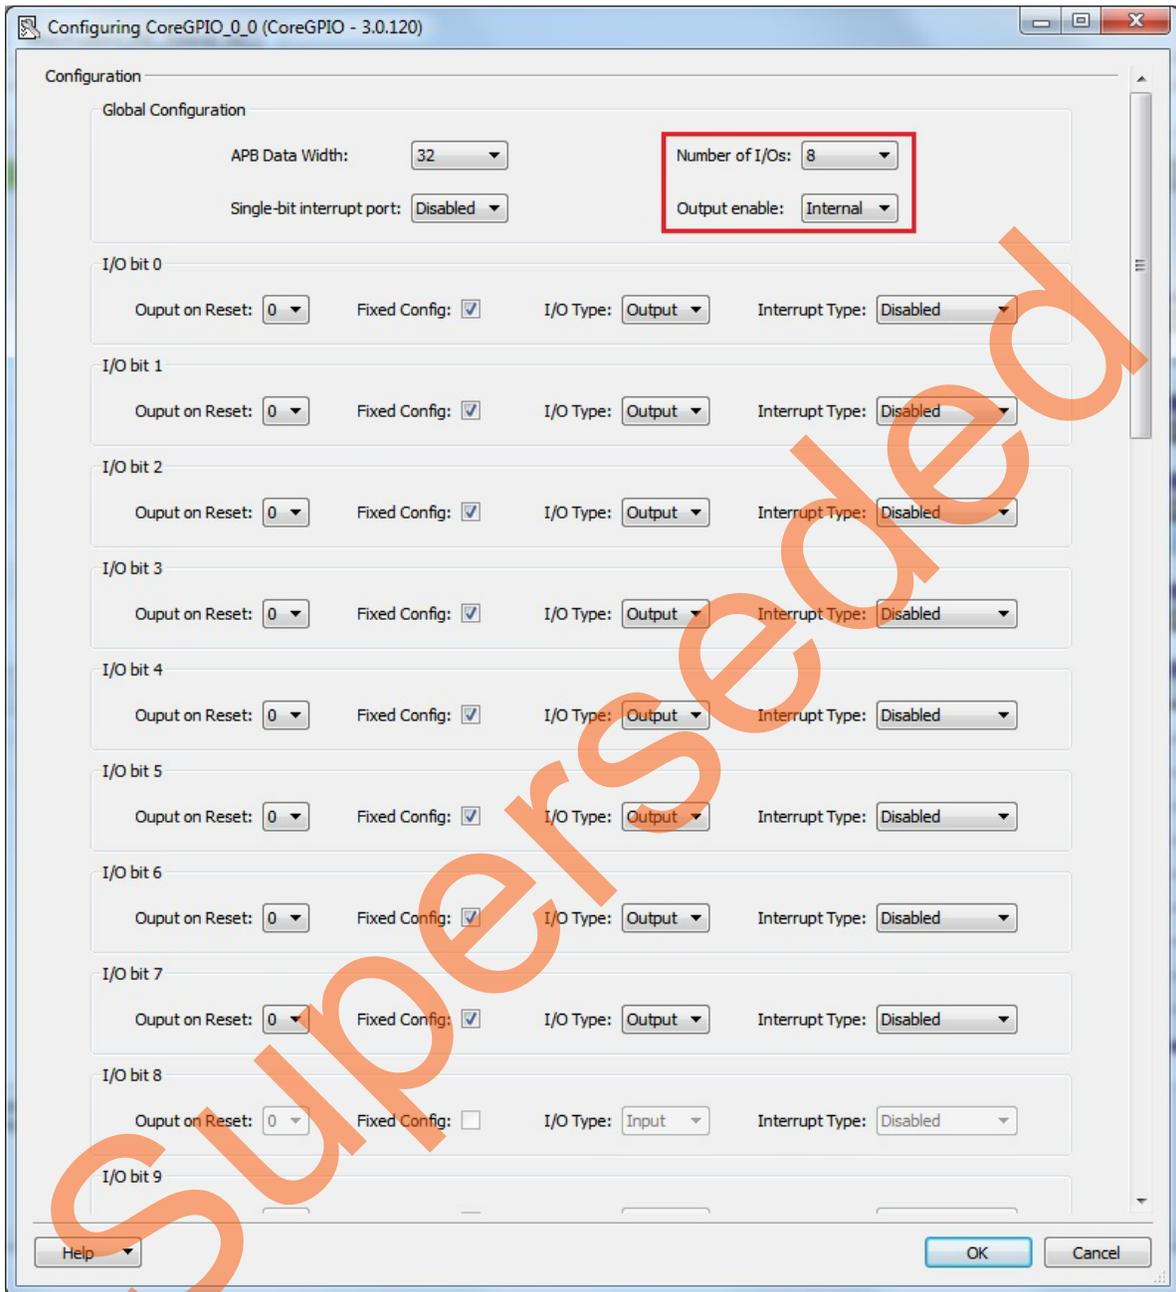

Figure 11 • CoreGPIO Configuration
10. Click **CoreGPIO Configure** icon and use the following settings for SmartFusion2 Evaluation Kit Board as shown in Figure 11, and keep the rest at default states